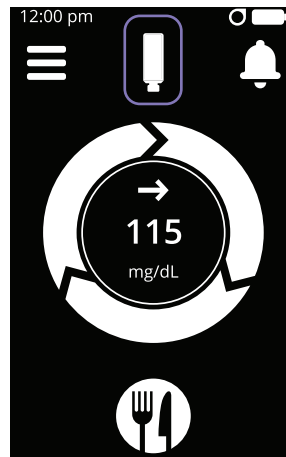

Figure 72
- From the **Home** screen, tap the **Cartridge** icon (see Figure 72).